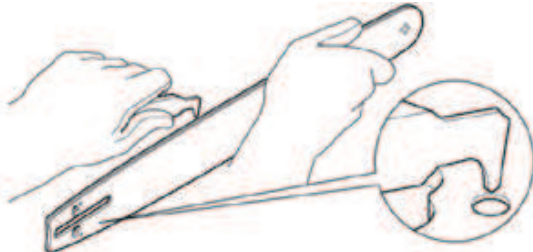

Fig. 45
4. Clear residue from the rails on the guide bar **(8)** using a screwdriver, putty knife, wire brush or other similar tool. This will keep the oil passages open to provide proper lubrication to the guide bar **(8)** and saw chain **(7)** (Fig. 45).